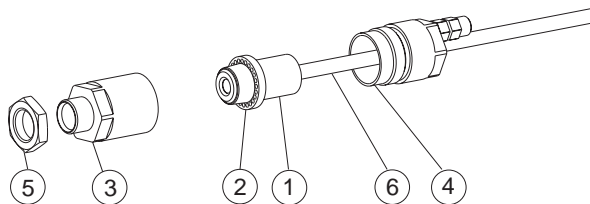

Figure B-22: Air Purge Jacket Installation
To install the air purge jacket (refer to Figure B-22), remove the sensor (1) and cable by disconnecting the cable from the electronics box. Then open the Air Purge Jacket (3, 4) and screw the white plastic fitting (2) onto the sensor up to the end of the threads. (Do not overtighten.) Slip the cable (6) through the backside (4) of the jacket. Close the Air Purge Jacket (3, 4) and reconnect the wires to the electronics box.